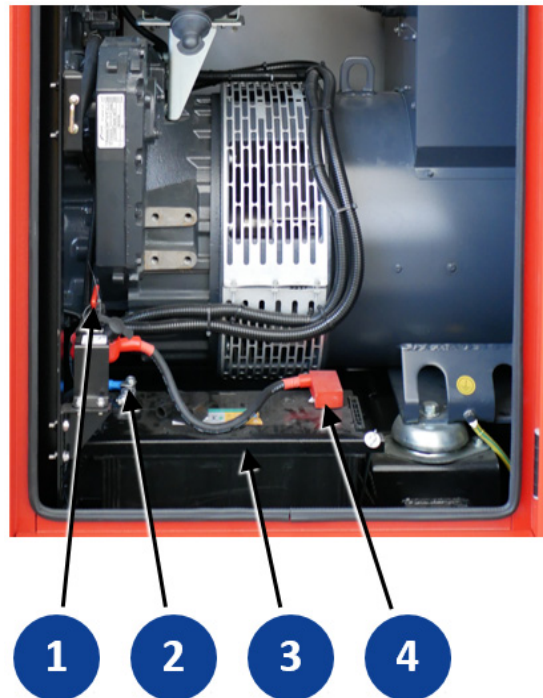

Fig. 8-1 Starter battery
1. Pull off pole protection cap (if fitted) from the battery’s negative pole and the negative cable Fig. 8-1 -must always be the FIRST 2 cable to be disconnected from the battery.
2. Pull off pole protection cap (if fitted) from the battery’s positive pole and the positive cable Fig. 8-1 -must always be the LAST 4 cable to be disconnected from the battery.
3. Undo the two fixing nuts and then remove the retaining bracket Fig. 8-1 3 from the battery.
7. Use the retaining bracket Fig. 8-1 to secure the starter battery in place 3.
8. FIRST attach the plus cable Fig. 8-1 4 to the positive pole of the battery and then pull the red pole protection cap over the pole if necessary.
9. Fasten the negative cable Fig. 8-1 LAST 2 to the minus pole of the battery and then pull the pole protection cap over the pole if necessary.